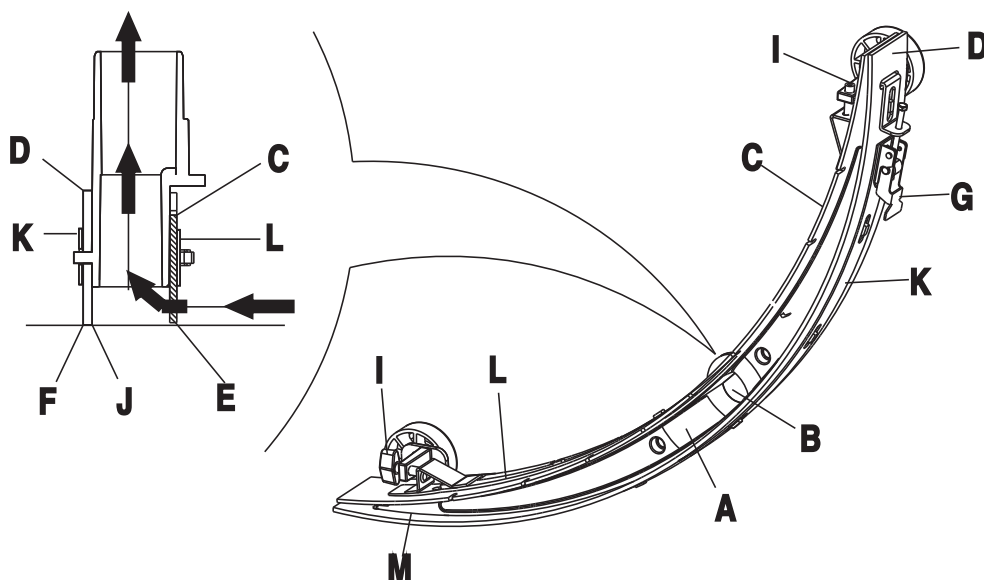

FIGURE 15
2. Press the power switch (41) to the "O" position to turn off the machine.
3. Unscrew the squeegee knobs (16); remove the vacuum hose from the squeegee assembly & remove squeegee.
4. Use the squeegee lift handle (14) to lift the squeegee mount bracket.
5. Using a damp towel, clean the squeegee (Figure 15). Clean in particular the groove (A, Figure15) and the dirt and fragments on the vacuum tube. Check if the front squeegee blade (C) and the rear squeegee blade (D) are intact, and if there are broken edges and cracks. Replace them if necessary (refer to the steps in the following section).
- Following the methods related in the previous section clean the squeegee (Figure 15)
- Check the edge (E, Figure 15) of the front squeegee blade and the edge (F) of the rear squeegee blade (D). On the whole length, they should be level. Otherwise, adjust their heights through the following procedure.
- Loosen the clip (G) to let the rear squeegee blade (D) separate from the bracket (M) for the adjustment of the position of the squeegee. After the adjustment, lock the clip once again.
- Loosen the screw on the handle (I) to adjust the front squeegee blade (C); tighten the handle screw after adjustment.
- Check if the front squeegee blade (C) and the rear squeegee blade (D) is intact and if there are broken edges and cracks. If damage is found, change them according in the following way. If the front edge of the rear squeegee blade (J) has worn, it can be flipped upside down and re-installed (the top edge is required to be intact). If the top edge is also worn, change it by following the procedure below:
- Loosen the clip (G) to let the pressure blade separate from the bracket (M), take off the clip bar (K), and then change or turn the rear squeegee blade (D) upside down. Re-install the rear squeegee blade in the reverse order of taking it off.
- Loosen the handle screw (I) and take off the front clip bar (L), and then change the front squeegee (C). Re-install the front squeegee blade in the reverse order of taking it off. After changing the squeegee blade, adjust the level of the front and rear squeegee blades in the procedures as described above.
- Connect the Vacuum hose (11) to the squeegee.
- If necessary, adjust the squeegee by turning the adjustment knob (20) (refer to the procedures for adjusting the balance of the squeegee).